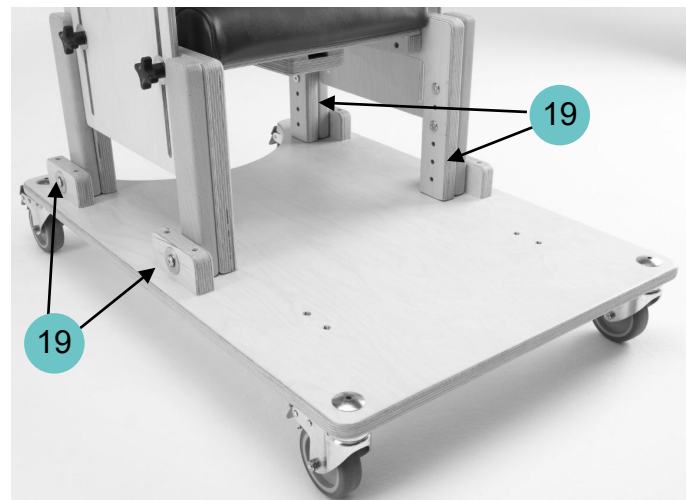

Figure 17
- Secure all four legs using the screws provided with the dolly accessory pack (Ref. 15 of Figure 17).